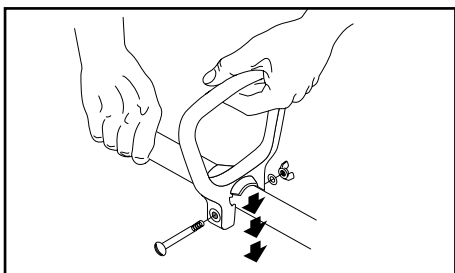

Fig. 1
1. Push the D-Handle down over the boom (Fig. 1).